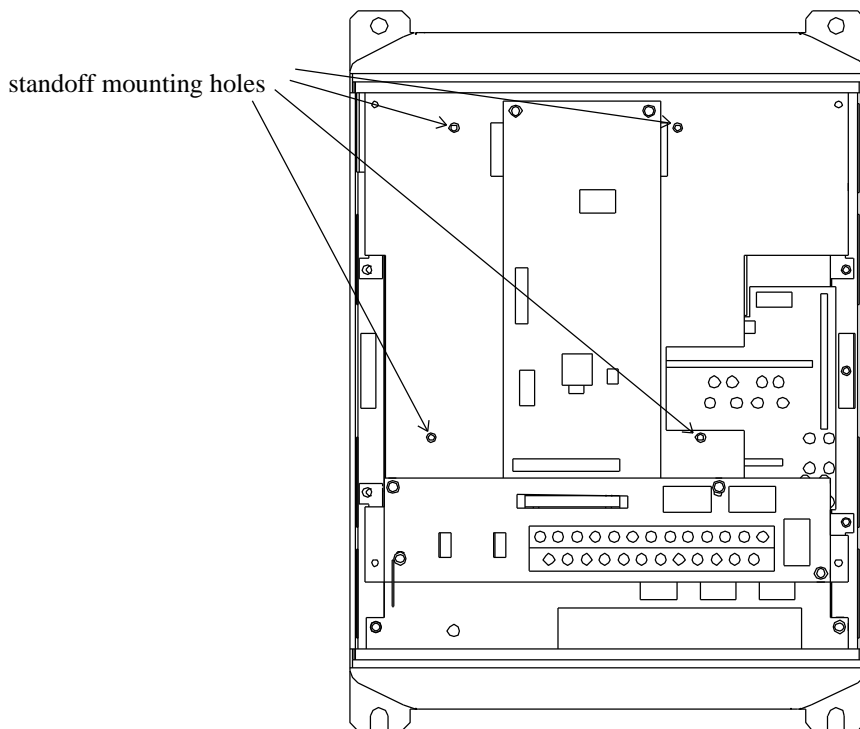

Figure 2: E3 with front cover and operation panel support bracket removed
- Install the 4 nylon standoffs into the holes provided in the control board support bracket (refer to Figure 2).